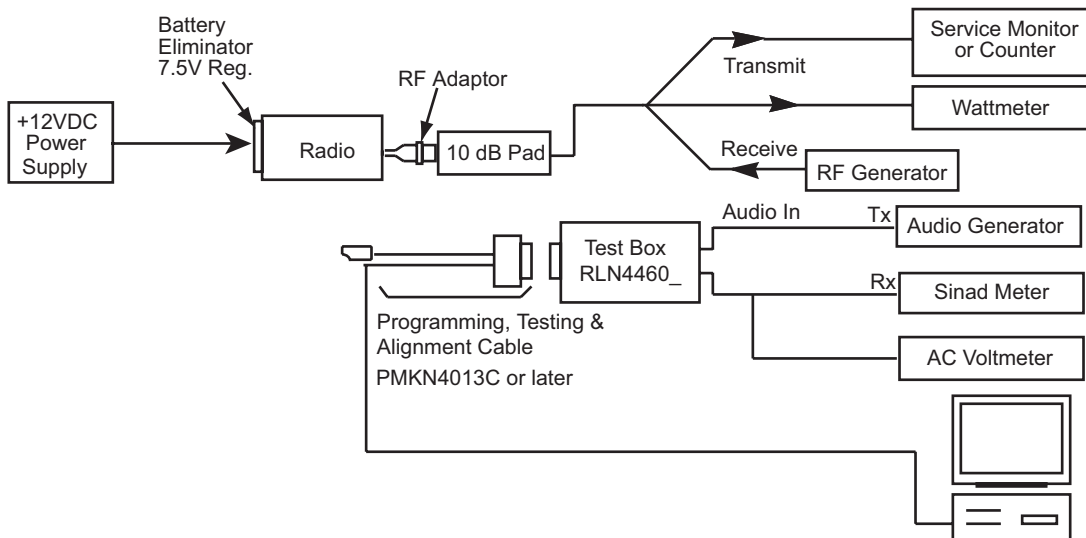

Figure 4-2. Radio Tuning Equipment Setup
A personal computer (PC), Windows 2000/XP/Windows 7 and a tuner program are required to tune the radio. To perform the tuning procedures, the radio must be connected to the PC, radio interface box (RIB), and test equipment setup as shown in Figure 4-2.